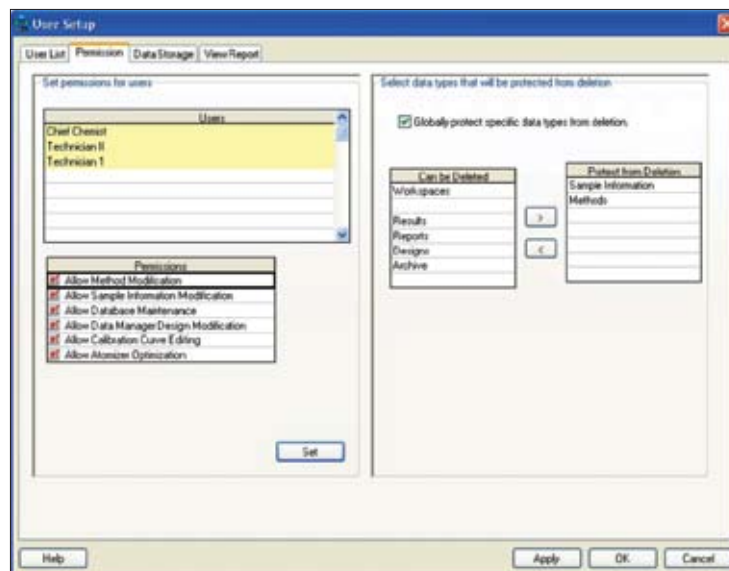

Figure 1. WinLab32 User Setup utility.
- WinLab32 leverages the powerful security features of Microsoft® Windows® to provide the protection your laboratory needs. Personnel can be divided into groups with each group assigned a level of permission. The "administrator" group can install and configure the software and perform any WinLab32 task while other groups may be restricted from performing certain tasks. With WinLab32 software you define the groups and permissions assigned to each – passwords control access (Figure 1).